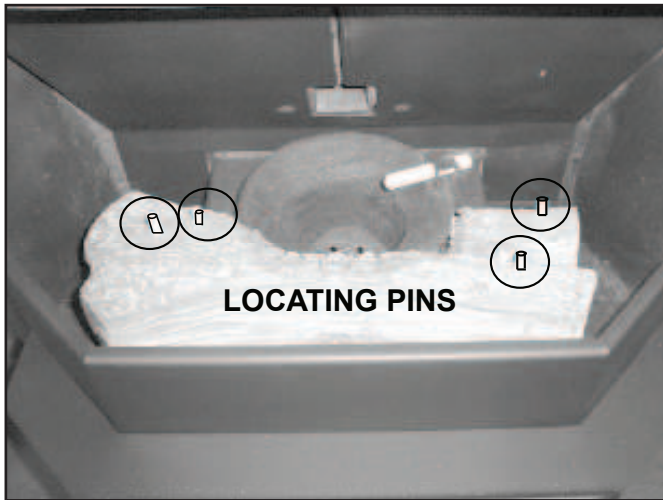

Figure 25.1
1. Place the front log in first as shown in **Figure 25.1** charred area surrounding firepot.